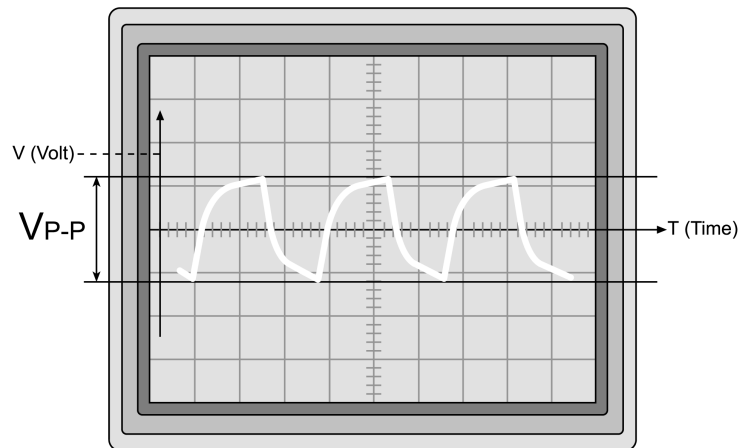

Figure 8-16: The Waveform
- 7 Adjust trimmer RV7 on the logic board until the voltage for the relevant machine is attained, according to Table 8-7 below. At the same time, adjust the oscilloscope time base and voltage scale until the waveform shown in Figure 8-16 appears.
- 9 Adjust trimmer RV8 on the logic board until the voltage appropriate for the relevant machine is attained, according to Table 8-8 below. At the same time, adjust the oscilloscope time base and voltage scale until a waveform like the one shown in Figure 8-16 appears.